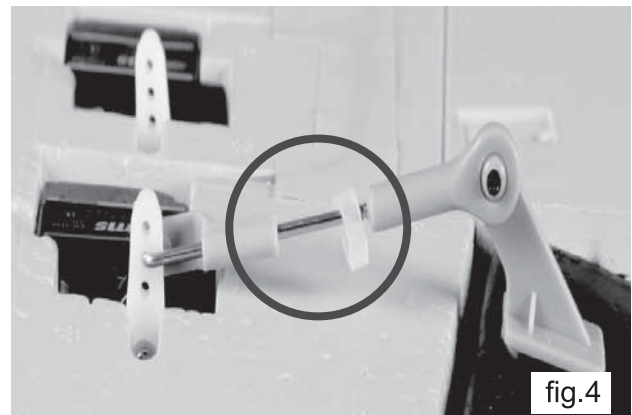

fig.4
- 4) Press the hole in the clevis over the end of the control rod linkage, rotate it and snap the base of the clevis over the control rod linkage (fig. 4).